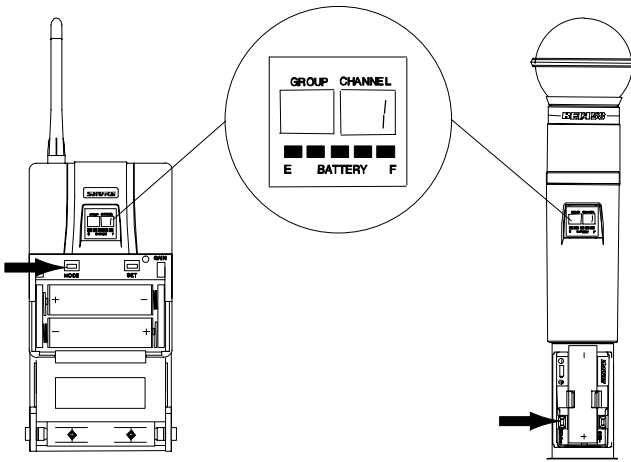

FIGURE 40
- Press the MODE button again so that only the Channel number displays, as shown in Figure 40.